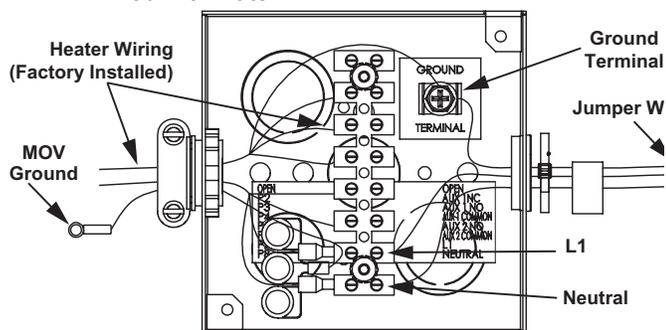

Figure 56. Electrical Wiring - Junction Box
The 120-VAC hot wire from the power supply must connect to the black jumper wire or the "L1" terminal block location in the junction box and the 120-VAC neutral wire must connect to the white jumper wire or the "Neutral" terminal block location in the junction box for correct polarity. See *Figure 56* (page 42).
3. Connect the 120-VAC hot wire from the power supply to the black jumper wire or the terminal block location marked "L1" inside of the junction box located on top of the water heater. If the black jumper wire is used, make the connection inside of the junction box with a properly-sized wire nut. Wrap electrical tape around the wire nut and wire end. See junction box *Figure 56* and the wiring diagram *Figure 67* (page 67).
4. Connect the 120-VAC neutral wire from the power supply to the white jumper wire or the terminal block location marked "Neutral" inside of the junction box located on top of the water heater. If the white jumper wire is used, make the connection inside of the junction box with a properly sized wire nut and wrap electrical tape around the wire nut and wire end. See junction box *Figure 56* and wiring diagram *Figure 67* (page 67).
5. Connect the ground wire from the power supply to the grounding lug inside the junction box. See the junction box in *Figure 56* and the wiring diagram *Figure 67* (page 67).